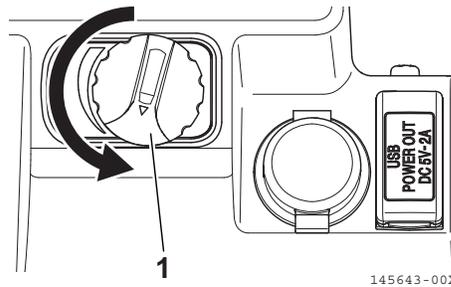

Fig. 4-3
2. Turn the engine control dial (Fig. 4-3, 1) to the left to decrease the engine speed.